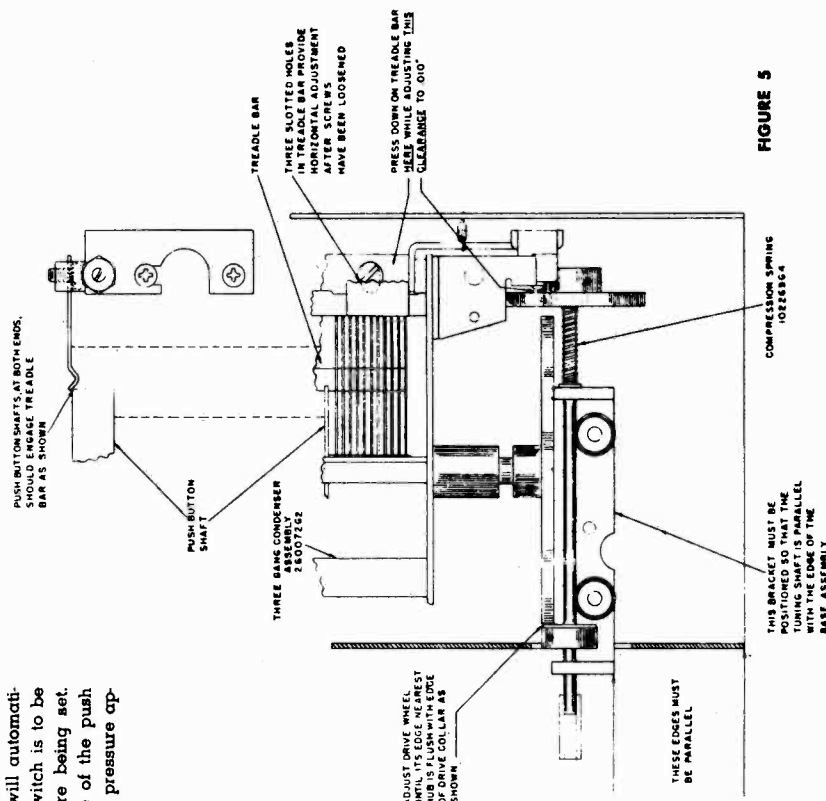
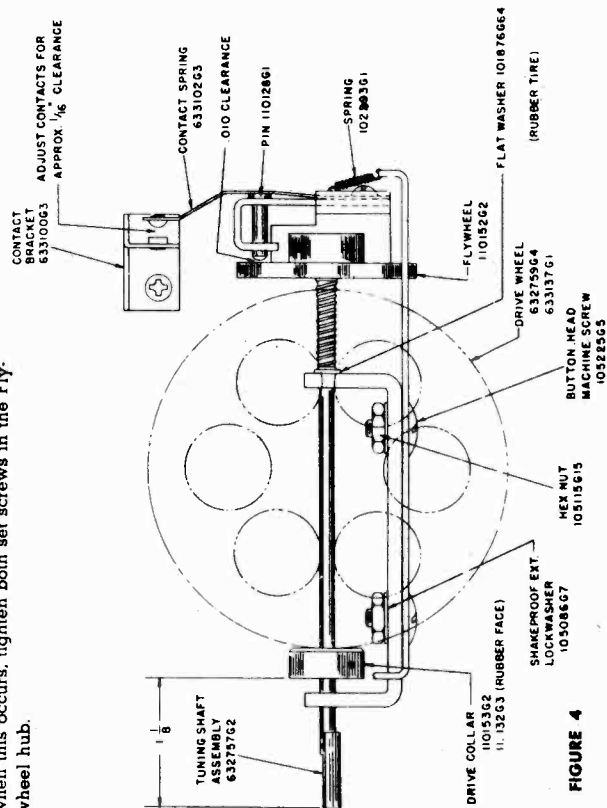

FIGURE 5
FIGURE 4
Whenever any of the mechanical parts in the condenser gang drive assembly require replacement due to rough handling or for any other reason, it is extremely important that clearances and adjustments shown on Figures 4 and 5 are correct; otherwise, the tuning mechanism will be sluggish or it may slip during operation. In reassembling the mechanism after any part was replaced, follow the procedure outlined below:
1. Assemble the Tuning Shaft, Drive Collar, Compression Spring and Flywheel in the order shown on Figure 5. The distance between the front of the Drive Collar and the front of the Tuning Shaft must be 1/4 inches as specified on Figure 4. Install the Flywheel on the rear of the Tuning Shaft and slide it forward until it nearly touches the edge of the Drive Wheel; then tighten one of the set screws in the Flywheel hub. Insert a .010" gauge between the Flywheel and the Pin, and while holding the gauge in this position, loosen the set screw in the Flywheel hub that was previously tightened. The Compression Spring should force the Flywheel back against the gauge—when this occurs, tighten both set screws in the Flywheel hub.
3. The Drive Wheel is properly located on its shaft when its edge nearest the hub is in line with the outside edge of the Drive Collar as shown on Figure 5. Two Allen set screws in the Drive Wheel hub provide a means of adjusting the position of this wheel.
5. If the push button shafts at both ends do not engage the Treadle Bar as shown on Figure 5, the three screws in the Treadle Bar must be loosened and the Treadle Bar should be moved until the required condition is obtained.
Model CR-208 radio chassis is a two-band tuner that must be used in conjunction with a power amplifier such as the AMP-101 for speaker operation. Heater and plate voltages for the CR-208 radio tuner are supplied from the amplifier chassis; it is therefore essential that the radio and the amplifier chassis be inter-connected during alignment or for other electrical service operations. Models CR-208A and 208B are alike electrically; they differ mechanically in the dial drive assembly. Figures 2 and 3 illustrate the CR-208A dial drive and Figures 4 and 5 the CR-208B assembly.